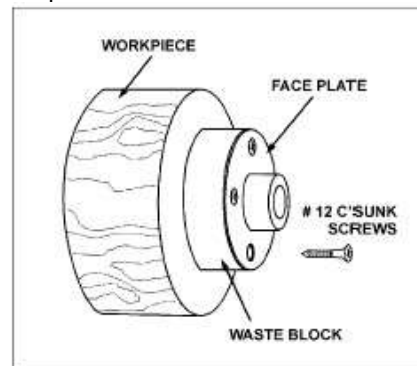

FIG.12
Use of a face plate is the most common method for holding a block of wood for turning bowls, and plates, see Figure 12.
3. Using the face plate as a template, mark the location of the mounting holes, and drill pilot holes of the appropriate size. If the mounting screws on the face plate interfere with the workpiece, a waste block can be mounted to the face plate and then the waste block mounted to the workpiece by gluing or screwing, see Figure 12.